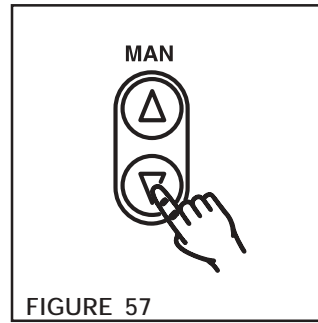

FIGURE 57
1. Press the **MAN** Manual Keys to increase or decrease the filter setting (See Figure 57).